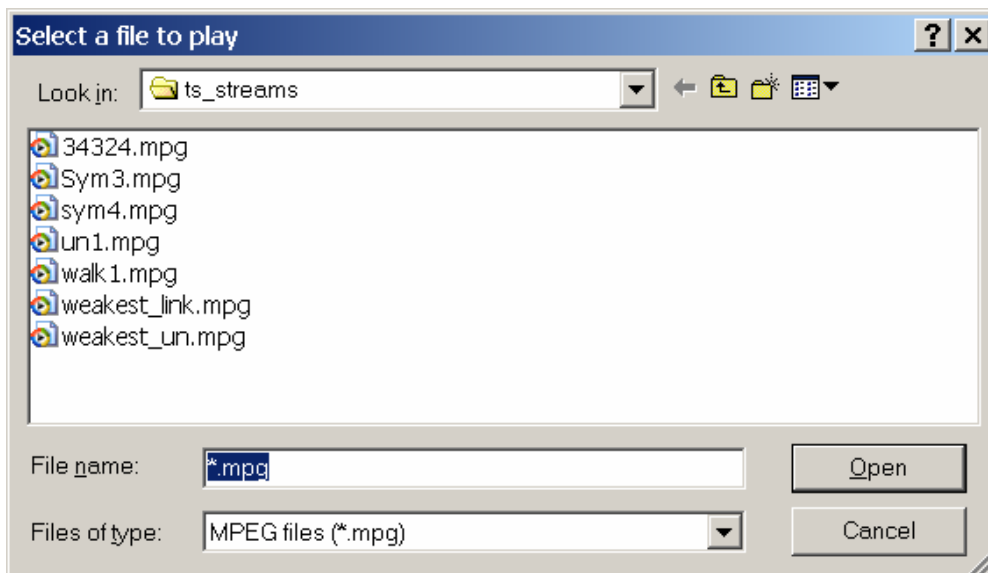

Figure 14 Play File
- Decoding Local Stored Files. If the application is started on a PC, which is connected to a network shared by the NETSTREAM, then it will present a view of available streams that can be software decoded and viewed on the PC. If no multicast streams are located by the application, then the stream list window will appear empty. If the user wishes to play a file from local storage (regardless of whether multicast streams are available or not) then the “Play from File” button should be pressed. This opens a standard Windows “Open File” dialogue box to make the selection. See Figure 14. The default file extension is *.mpg.